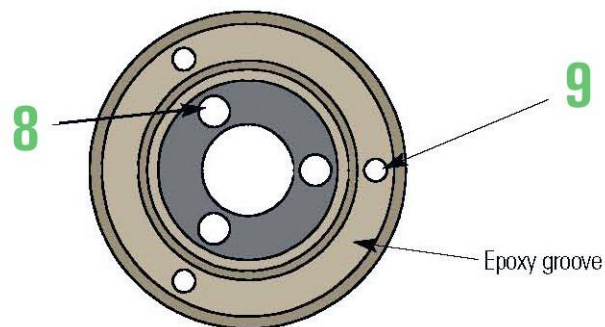

Figure 7
- Verify that the sizes of the three threaded mounting holes are correct through the table in Figure 7.
- Verify the number of Epoxy holes is correct in Figure 7.